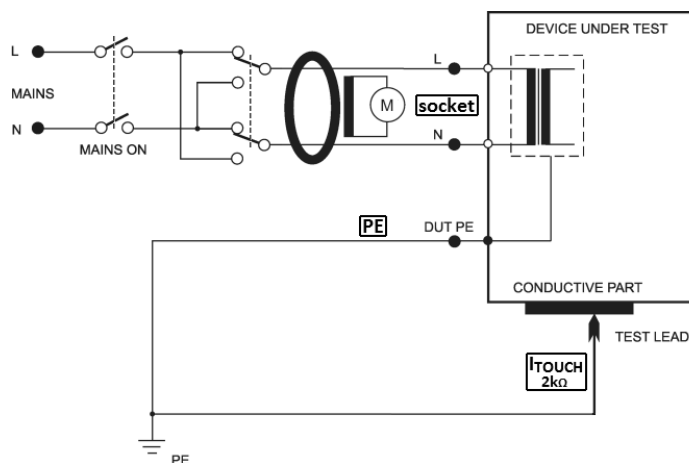

Figure 22: IdifTouch measurement
**IdifTouch measurement:** Both components of the leakage current (PE lead and ungrounded parts) are measured (see Figure 22).